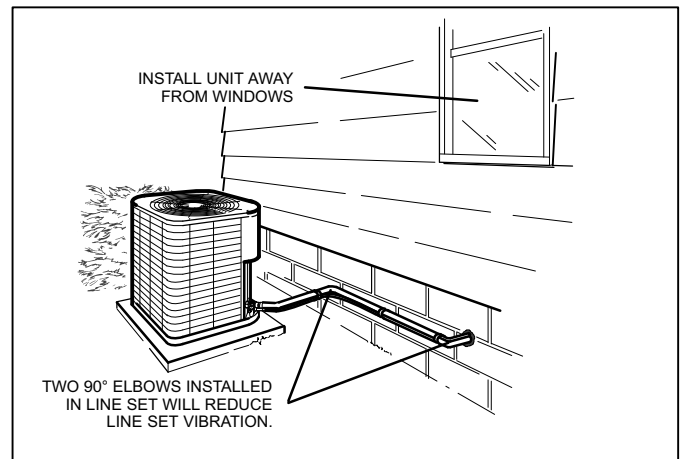

Figure 10. Outside Unit Placement
- When possible, do not install the unit directly outside a window. Glass has a very high level of sound transmission. For proper placement of unit in relation to a window see the provided illustration in Figure 10.